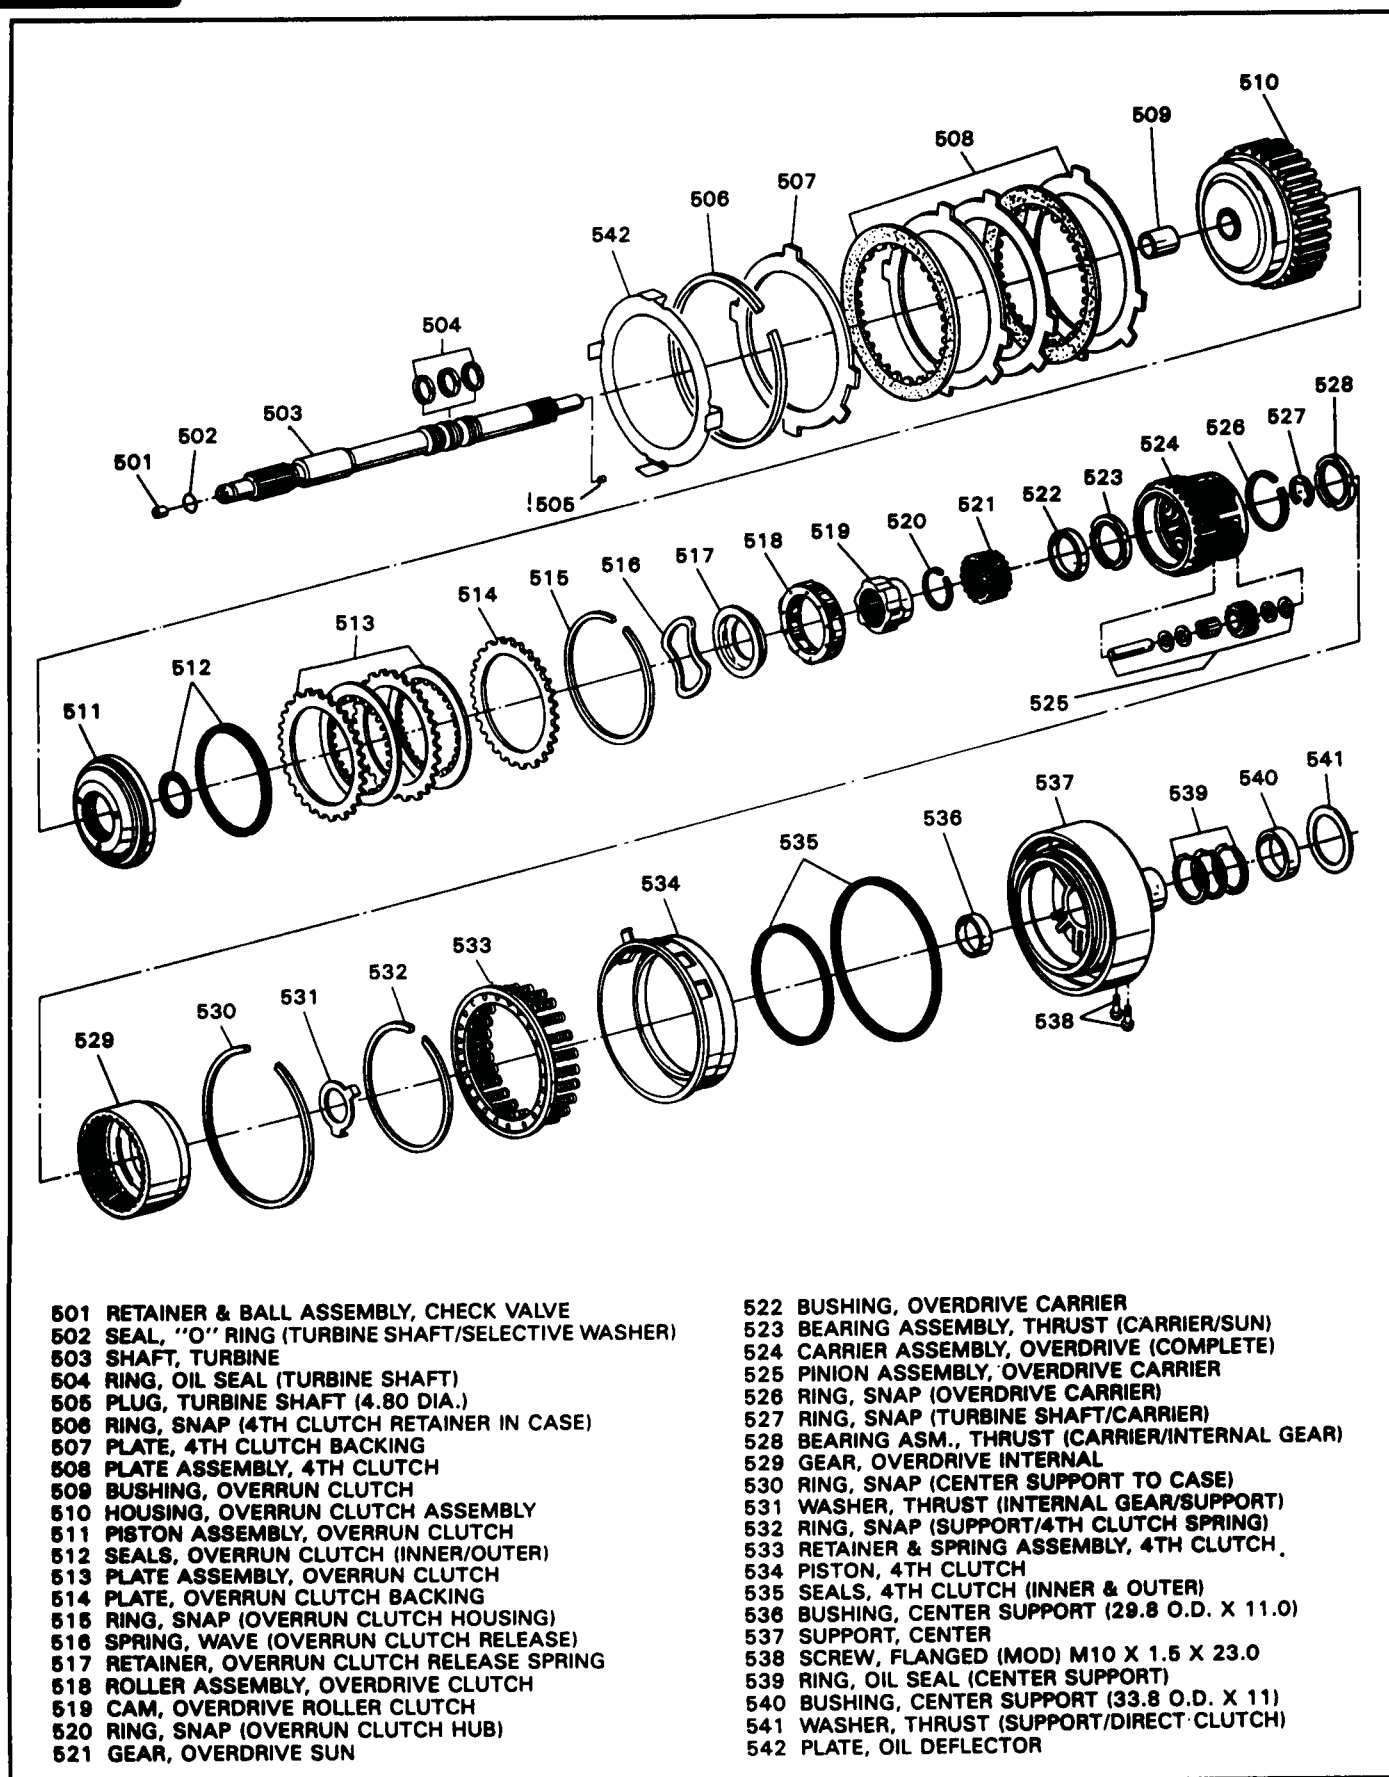

Figure 48
15. Use Figure 48 on Page 32 as a guide.